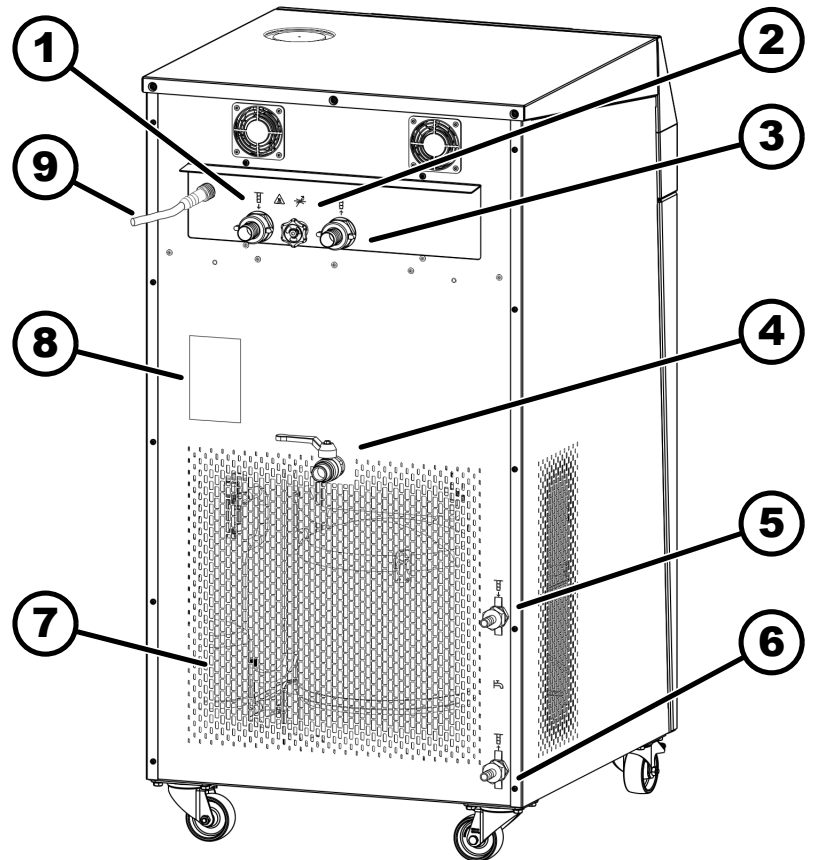

Fig. 6: Back of the VC 10000 W
9. **Fig. 6:** The ramp should be installed close to the pallet. Two persons should stand with their feet to the right and left of the ramp's guide rails to prevent them from slipping. Carefully push the device, front first ⑪, down from the transport pallet.